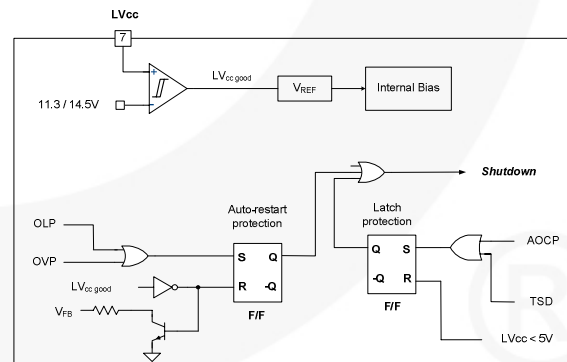

Figure 20. Protection blocks
3. Protection Circuits: The FSFA2100 has Overload Protection (OLP), Abnormal Over-Current Protection (AOC), Over-Voltage Protection (OVP), and Thermal Shutdown (TSD) self-protective functions. The OLP and OVP are auto-restart mode protections, while the AOC and TSD are latch-mode protections, as shown in Figure 20.